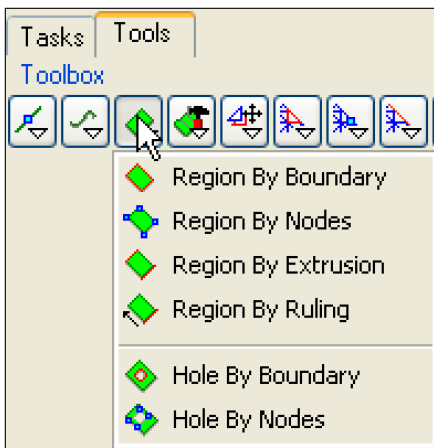

Figure 223: Toolbox - Create hole
3. Select the option from the pull down menu, shown in Figure 223, that corresponds to the hole creation method you plan to use.